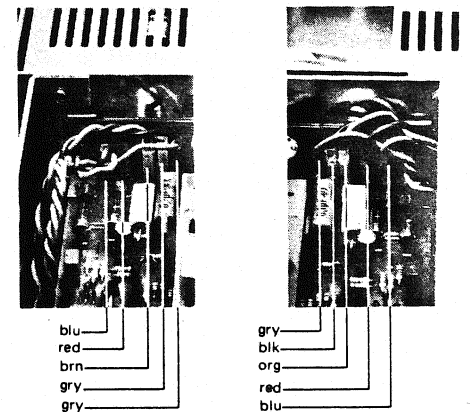

Fig. 2.6
### 2.7 Removing the cooling assembly including the POWER AMPLIFIER PCB 1.725.800 (see Figs. 2.6 and 2.7)
- Separate five flat-pin terminals on each side of the POWER AMPLIFIER PCB (Fig. 2.6).